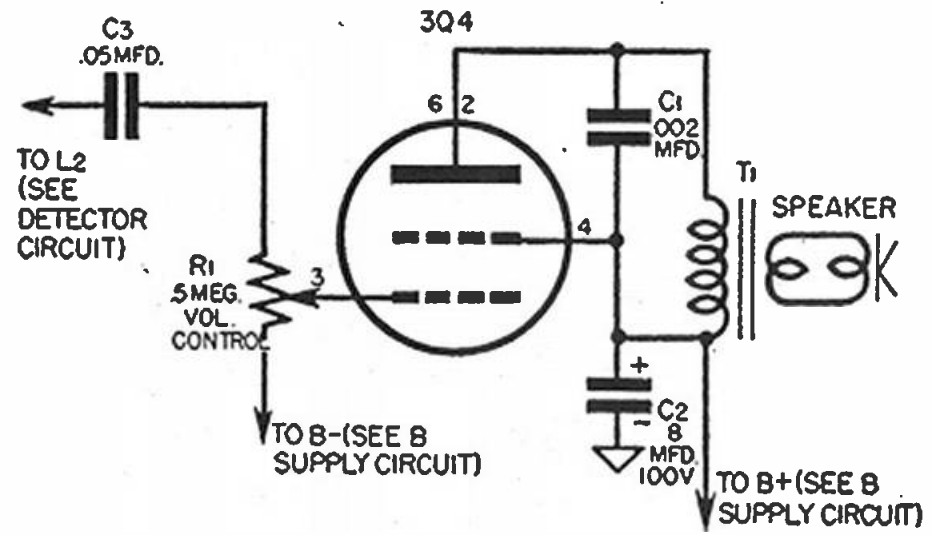

Fig. 8-18. Output circuit.
c) *Output Circuit.* See Figure 8-18.